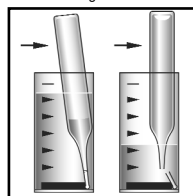

Figure 2
2. Place the Vacu-vial ampoule, tip first, into the sample cup. Snap the tip. The ampoule will fill leaving a bubble for mixing (fig. 2).